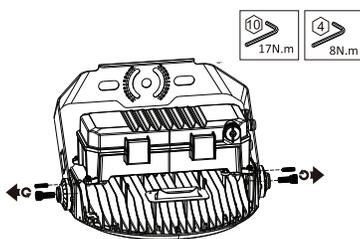

Fig. 28
1. Remove yoke mount bolts on each side (Fig. 28)